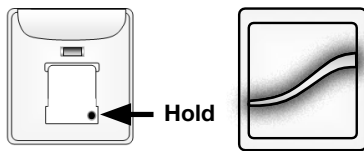

Fig. 20
A. Press and hold the program button on the back of the remote until the LED stops flashing. The LED will flash green, amber, red, and then turn off (about 15 seconds). (Fig. 20)